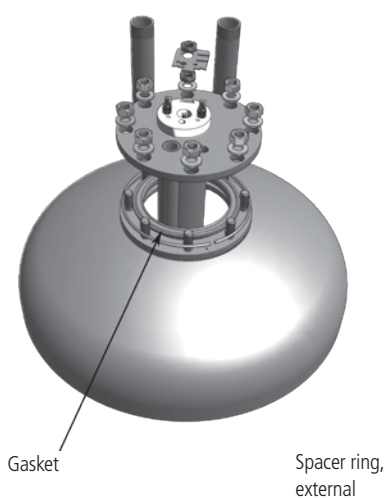

Figure 8
- Replace the flange with a new gasket and spacer ring on the outside of the bolts (figure 8). Tighten the bolts in diagonal cross-sequence to 15 to 17 Nm.